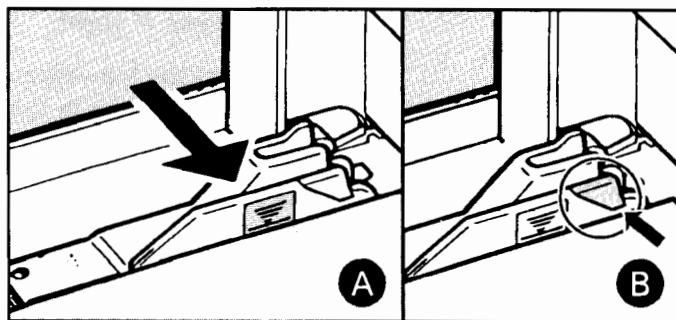

Figure 3-4.
4. Slide the paper width adjuster to touch the left side of the paper or other print media you have placed in the tray, figure 3-4 (A), and tuck your paper or other print media under the white plastic paper guide, figure 3-4 (B).